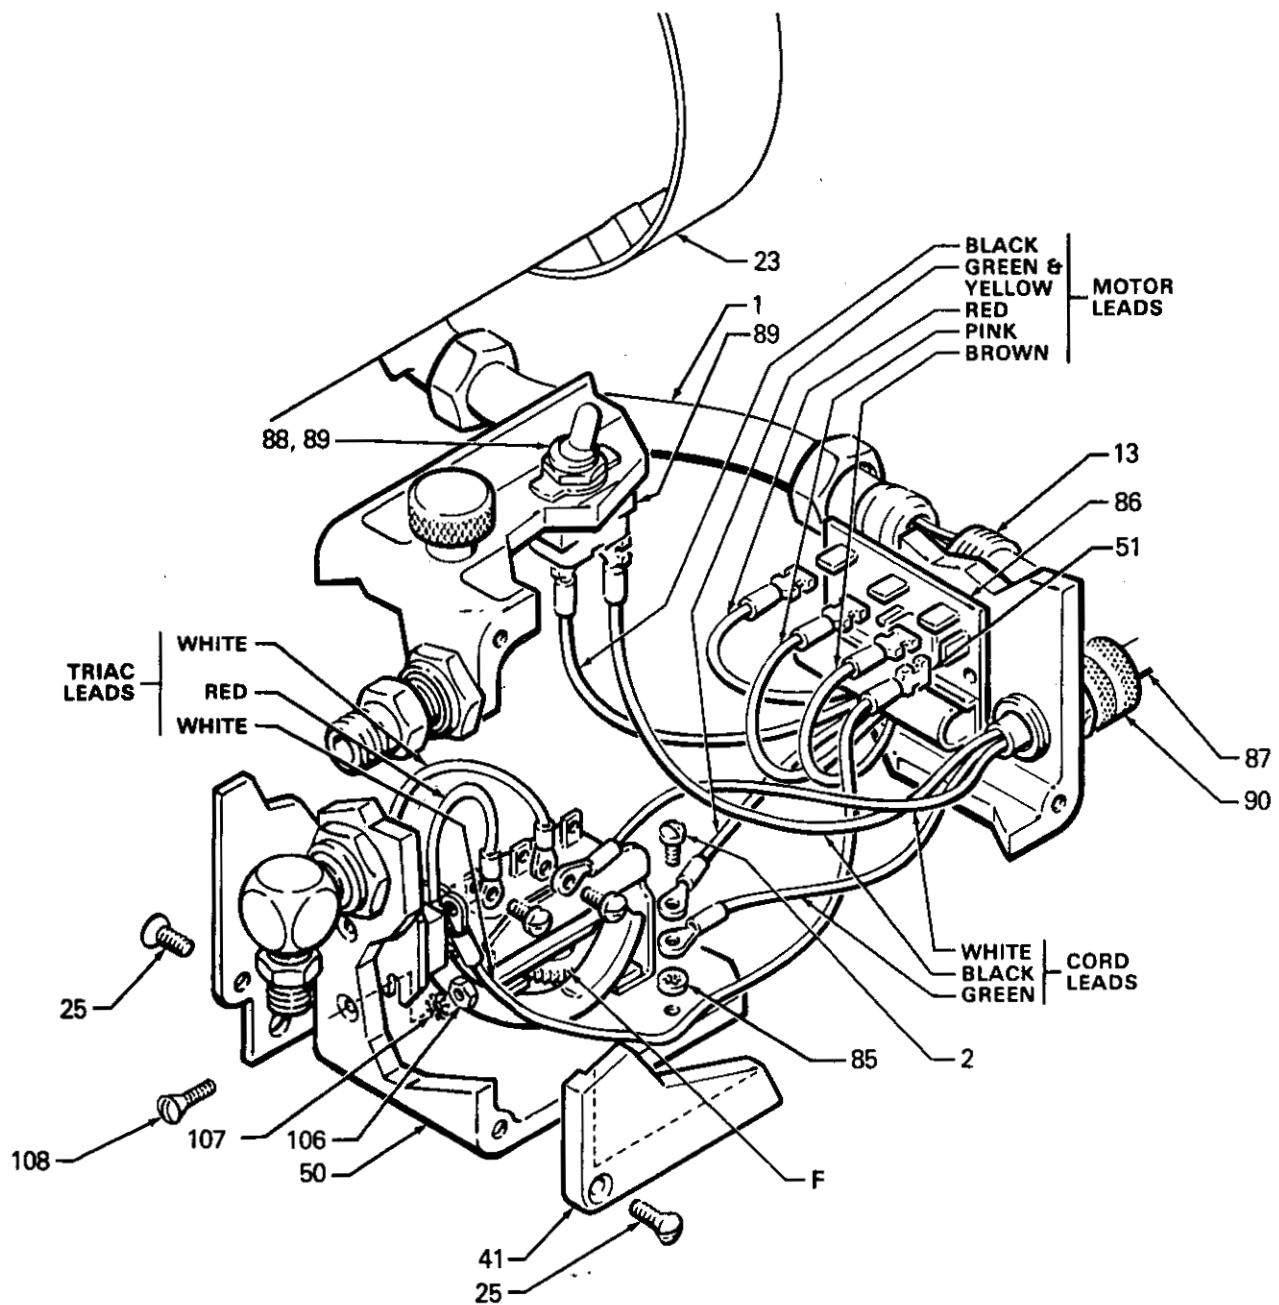

Fig 24
Remove screws (25) and cover (41) from pressure control (50). See Fig 24.
Disconnect red, pink and brown motor leads from circuit board (86). Disconnect green and yellow motor lead from grounding screw (2), and black motor lead from toggle switch (89). See Fig 24.
**NOTE:** Circuit board (86) is not included with pressure control (50) replacement assembly. Order separately if new circuit board is needed.
Unscrew nut on end of conduit (1) from connector (13). See Fig 24. Pull pressure control (50) away from conduit while carefully guiding wires through connector (13).
Loosen knurled part of power cord strain relief (90), and unscrew it from pressure control. Slide strain relief up on power cord to provide clearance, and unscrew conduit connector (13). See Fig 24.
If only the circuit board (86) needs to be replaced in the pressure control, remove the screws (25) and the front cover (41). See Fig 24. Pull the board out carefully, just far enough to reach the wire terminals. Unsnap the wires and finish removing the board.
Position the new card at the control so the wire connectors are at the top. Following the color coded diagram in Fig 24, snap the wires onto the board. Carefully guide the wires back into the control, making sure they don't catch on anything, then slide the new board into place. Check the pressure control calibration. See page 22.